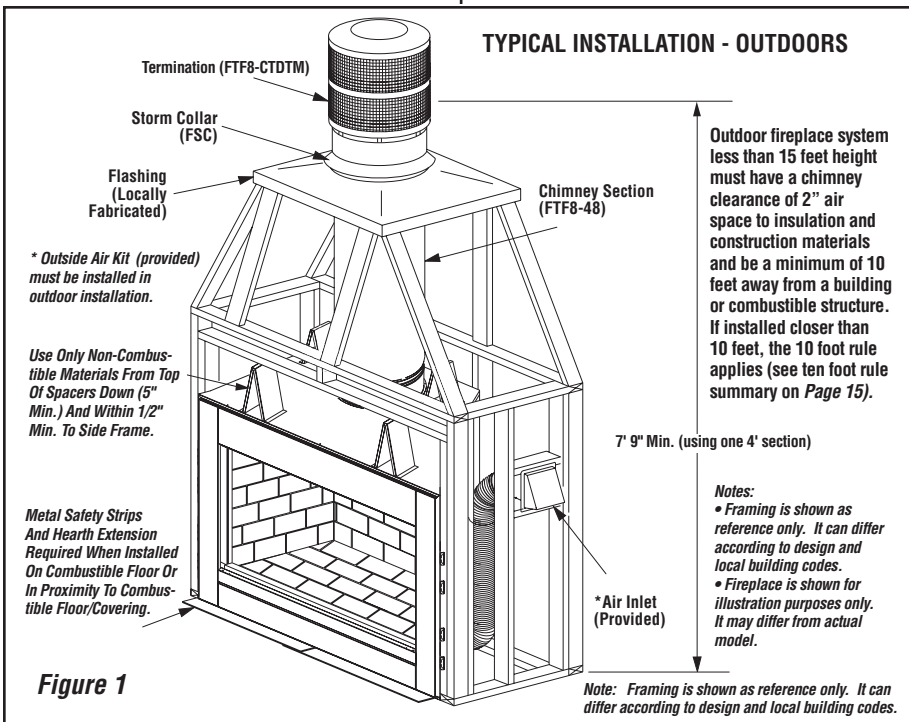

Figure 1
- The system height may be reduced to a single length of FTF8-48 pipe and termination with the FTF8-CTDTM for a minimum height on a complete system of 7' 9". The fireplace must be installed as a Freestanding system and located a minimum of 10' away from any building or structure (refer to **Figure 1**).
- Only non-combustible materials are allowed on the front face (Front Fireplace Frame) and around the perimeter within 5" (full length of top spacers) on the top and 1/2" on the sides (see **Figures 1, 51 & 52**).